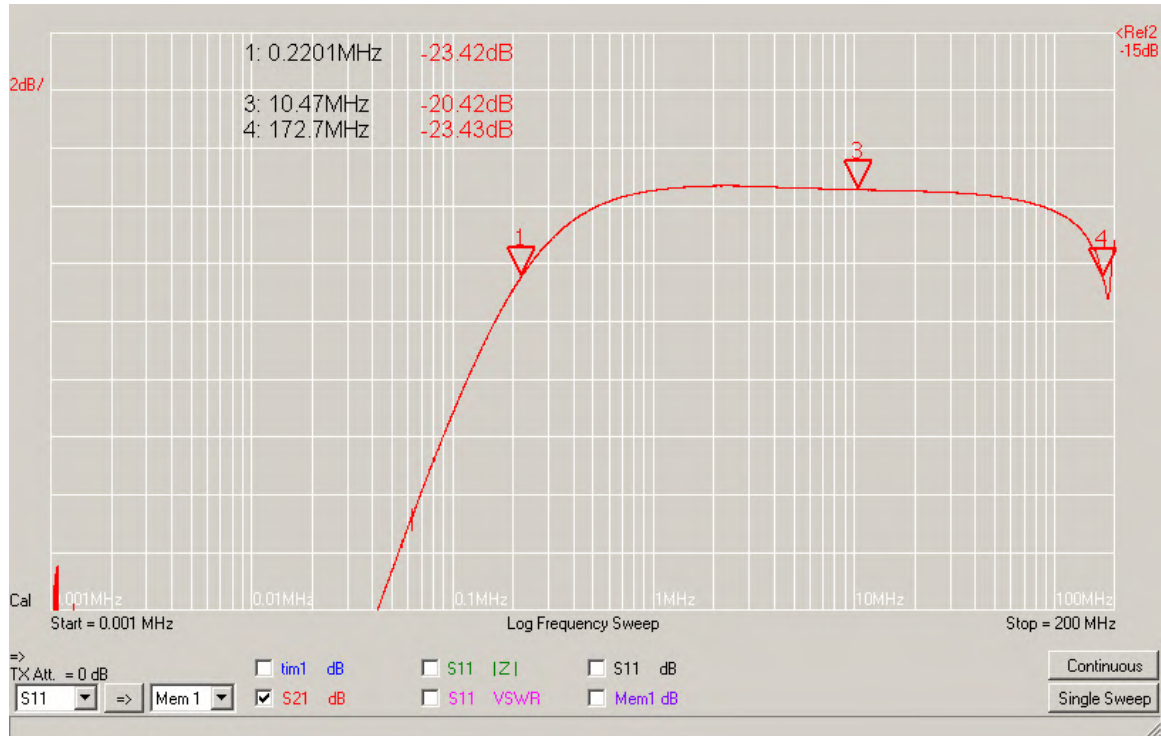

Figure 2. Frequency response of the wideband current transformer.
0.22 to 172 MHz. Figure 2 shows the frequency response, measured with a vector network analyzer and a calibration fixture that I replicated from the commercial units.